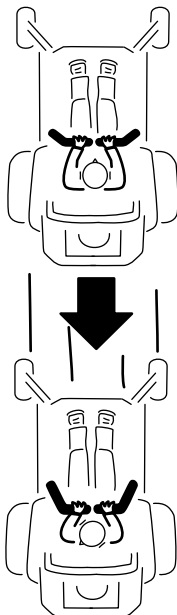

Figure 20
2. To go backward, slowly pull the motion control levers rearward (Figure 20).